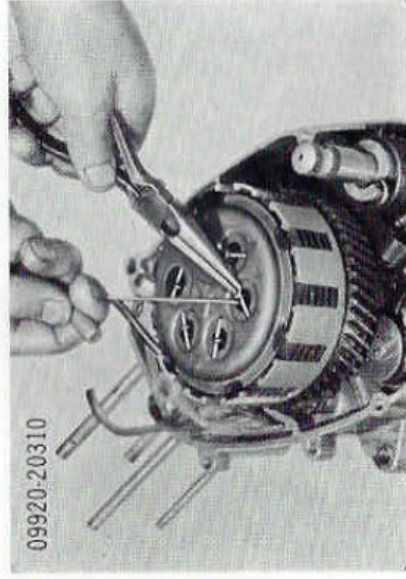
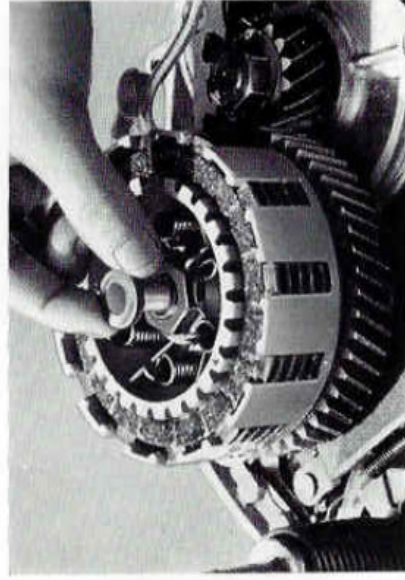

Fig. 8-2-13
Fig. 8-2-14
13. Pulling the clutch springs with a clutch spring hook (special tool 09920-20310), take out the **clutch spring pins** with a nose pliers. (Fig. 8-2-13) Remove the clutch pressure plate, the release rod and the cork and steel plates from the clutch housing by hand. (Fig. 8-2-14)